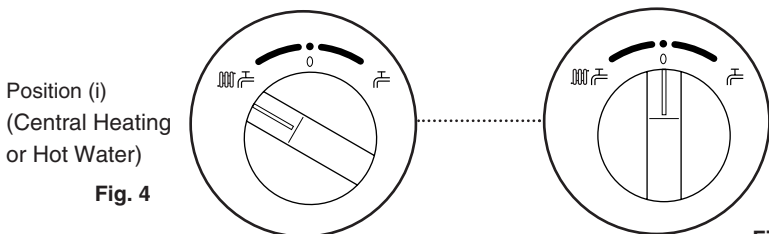

Fig. 3
3. Turn the on-off selector switch either anti-clockwise from the off position (Fig. 3) to both central heating and domestic hot water or clockwise for domestic hot water only.